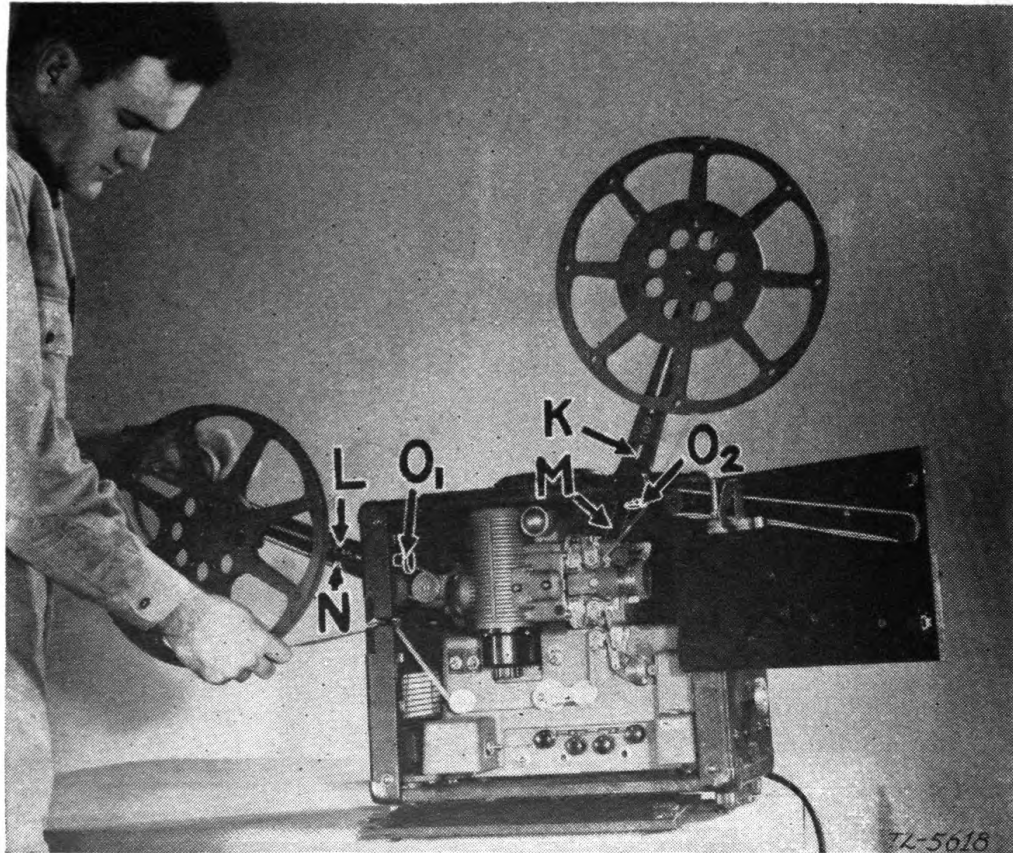

FIGURE 7.—Bell & Howell projector ready for operation.
- (3) *Bell & Howell* (fig. 7).—(a) Open projector case door and remove feed arm and take-up arm.